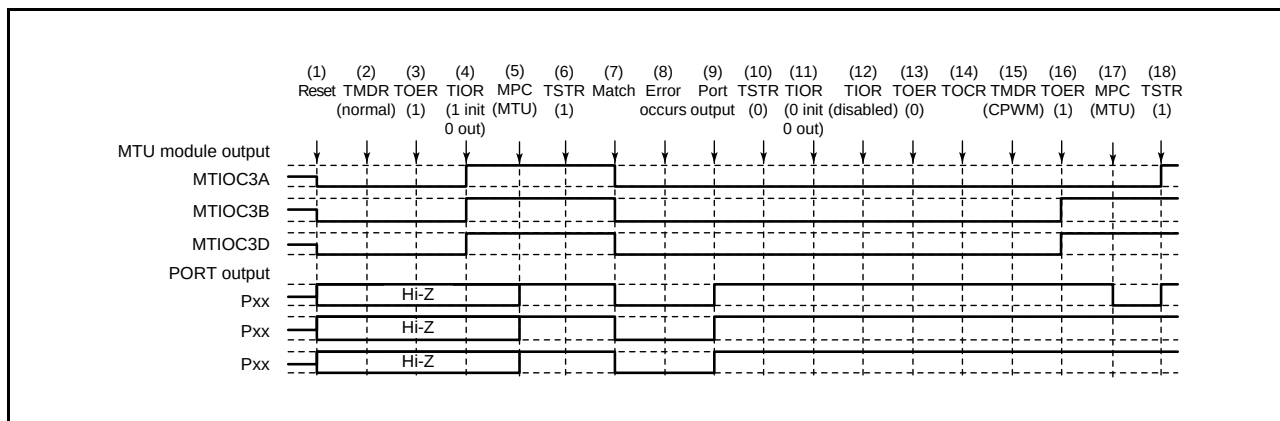

Figure 23.120 Error Occurrence in Normal Mode, Recovery in Complementary PWM Mode
Figure 23.120 shows a case in which an error occurs in normal mode and operation is restarted in complementary PWM mode after re-setting.
(1) to (13) are the same as in Figure 23.120.
(14) Select the reset-synchronized PWM mode output level and enable or disable cyclic output with the TOCR register.
(15) Set reset-synchronized PWM mode.
(16) Enable output in MTU3 and MTU4 with the TOER register.
(17) Use the MPC and the port mode register (PMR) for the I/O port to set up MTU output.
(18) Restart operation by setting the TSTR register.